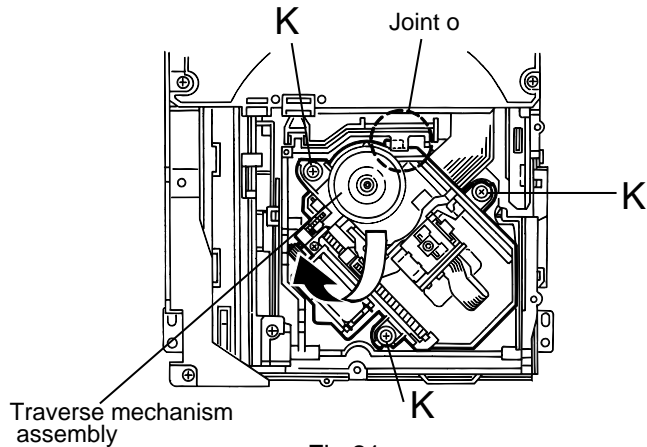

Fig.21
■ **Removing the traverse mechanism assembly (See Fig.21)**